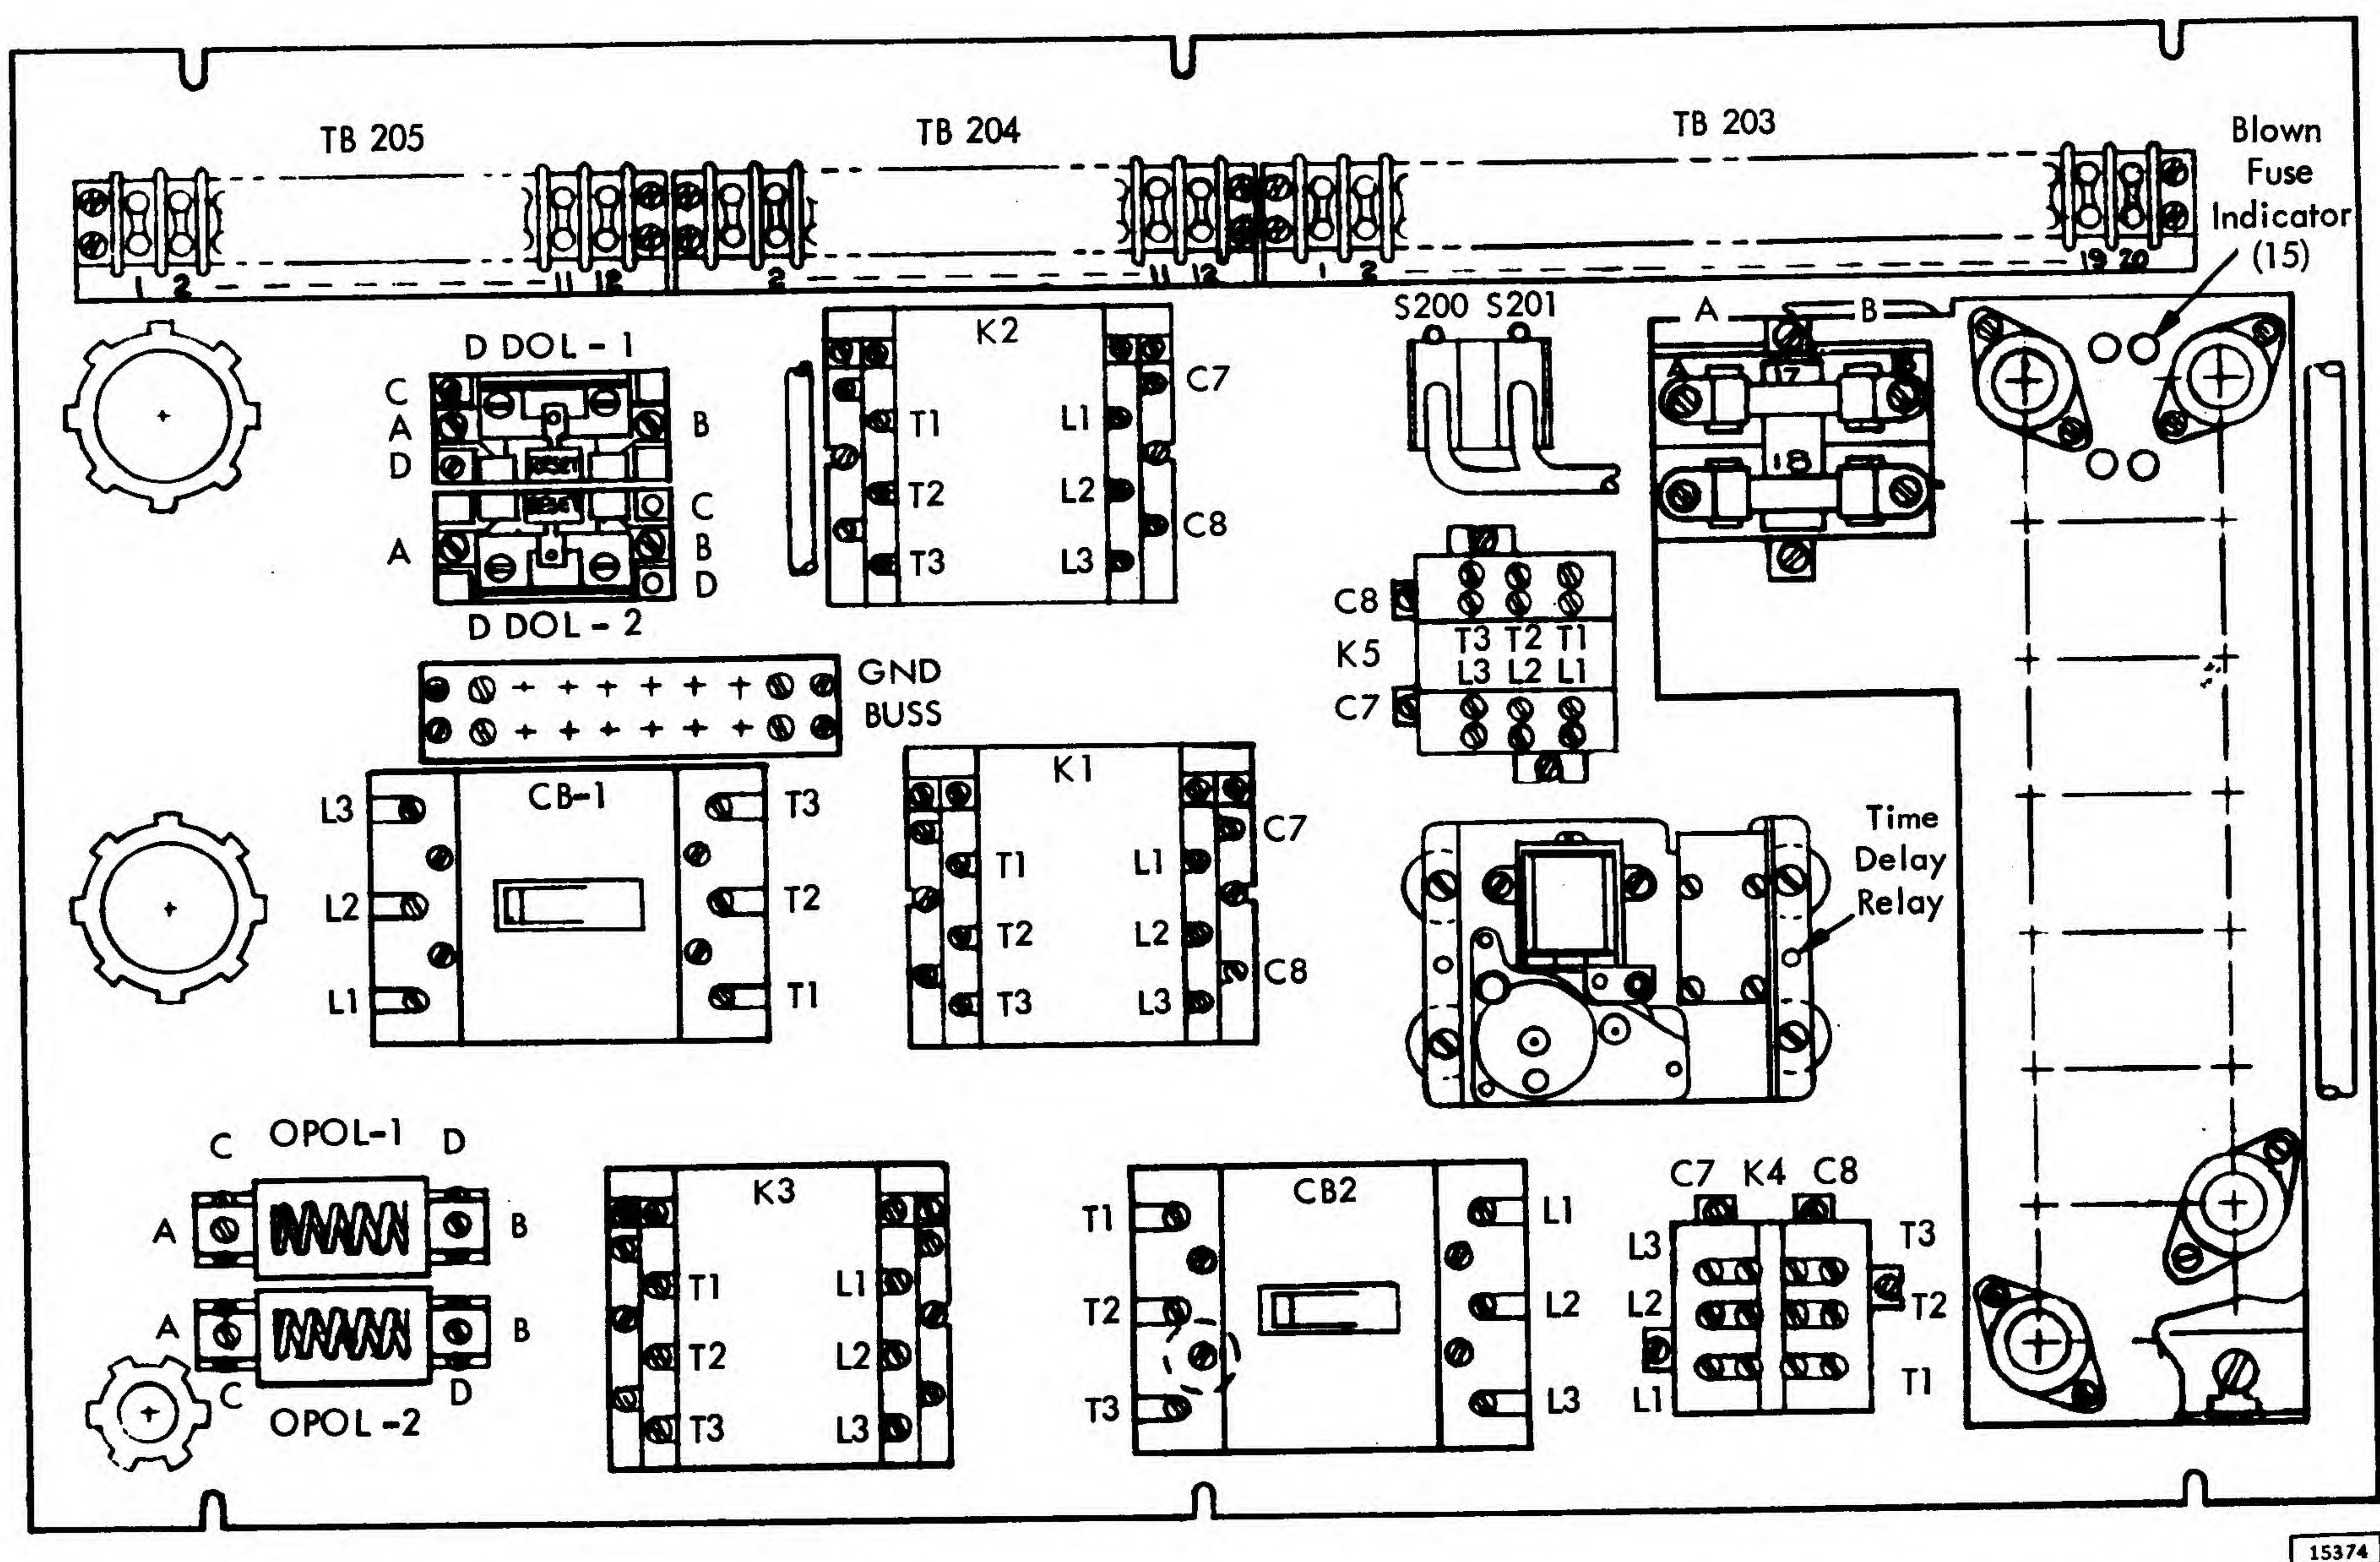

Figure 7-1. Power Contactor Box
POWER CONTACTOR BOX (Figure 7-1)
- Input power control consists of 5 contactors (Figure 7-1).
All dc power supplies are referenced to the dc common lines; none of the dc power supplies are referenced to each other. Individual circuit breakers are supplied for each output voltage and these are mounted on the power supplies. There are 15 blown-fuse indicators in the 2302, associated with fuses 1 through 15 (Figure 7-1). Fuse Nos. 16, 17, and 18 (spring loaded) are self indicating.